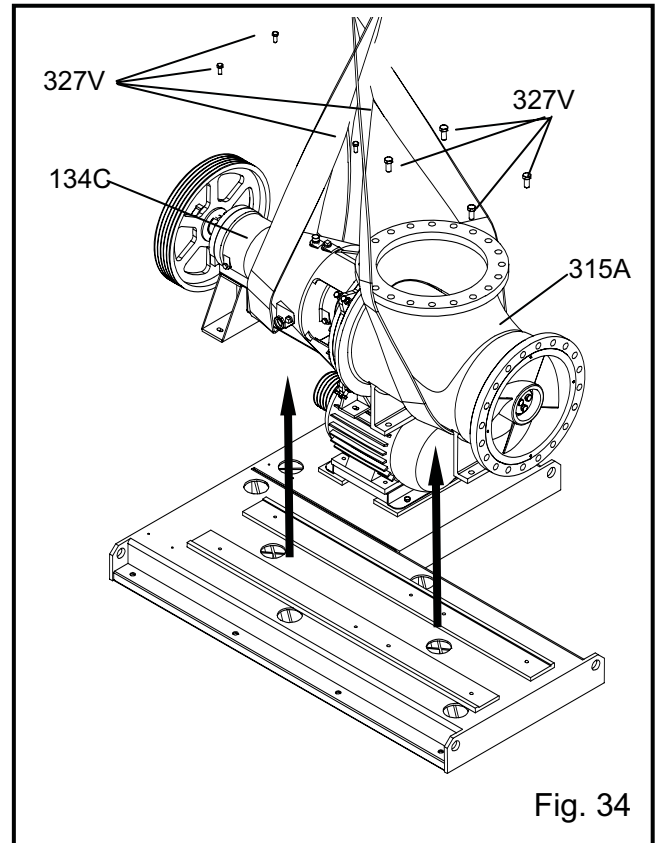

Fig. 34
11. Remove the pump to sub-base bolts (372V) and wrap lifting straps or chains around the bearing housing (134C) and elbow (315A), see Fig. 34. Using a crane, lift the pump vertically from the sub-base. Be careful not to damage the pump by striking any beams or walls that may be near the pump. If any shims are found under the bearing housing feet retain them for re-assembly later.